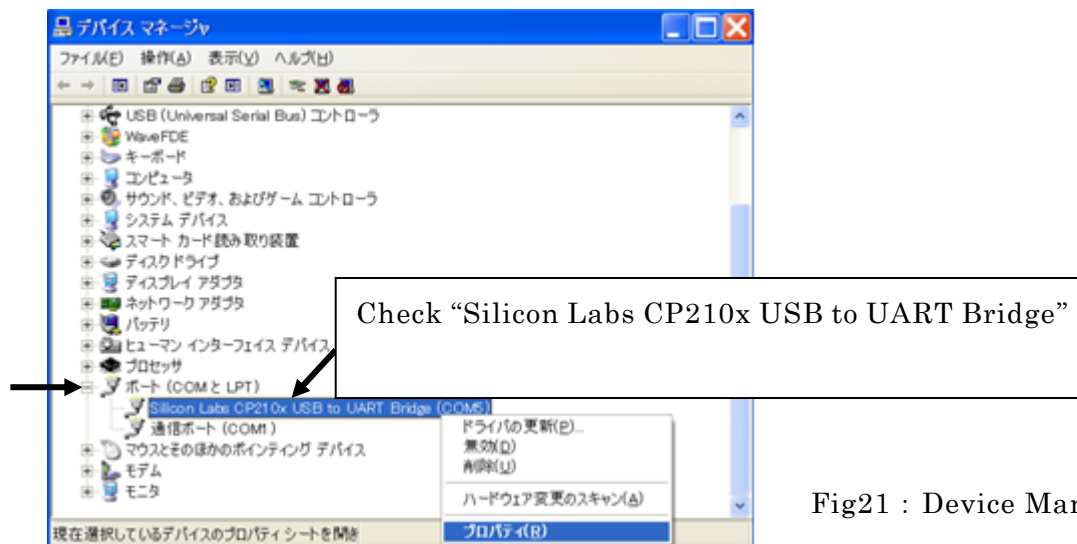

Fig21 : Device Manager
- (c) Connect Piat-RM and PC with attached USB cable. Make sure that the driver is detected. (Refer to Fig.21.)